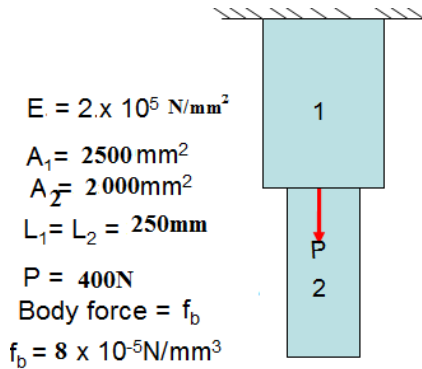

Fig. Q 5
5. The thin plate of uniform thickness as shown in Fig. Q 5. In addition to the self weight, the plate is subjected to point load of P at mid depth. Evaluate stresses in each element 20